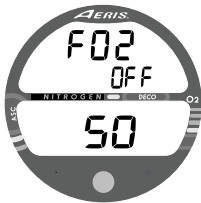

Fig. 12 - FO2 Default OFF
**If the Default is set to OFF** (Fig. 12), the FO2 value for repetitive dives remains the same as previously set until the Set Point is manually changed.